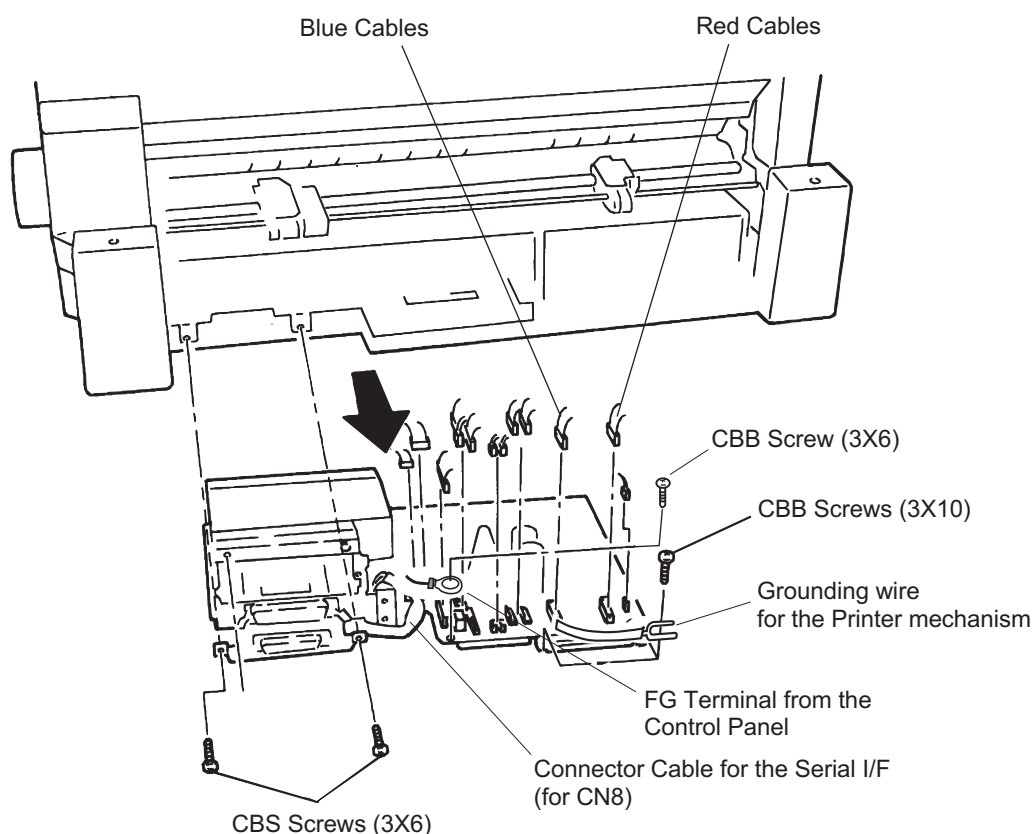

Figure 3-5 . C210 MAIN Board and MAIN Frame Removal
- **When connecting the connectors, connect one to the other of the same color. Pay special attention to CN1 (red harness) and CN2 (blue harness). If they are connected improperly, the head coil or C210 MAIN board may be damaged. (See Figure 3-5.)**